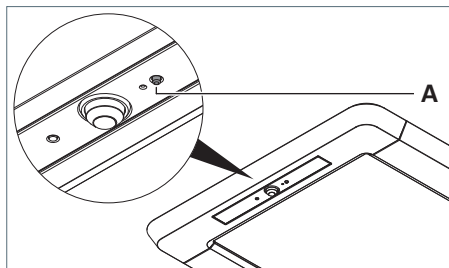
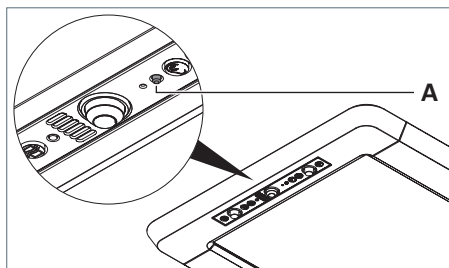

Fig. 31: Carrying out reset, version R.
Fig. 32: Carrying out reset, version RX.
- Press the key **A**, keep the key pressed and connect the luminaire to the power supply again, see Fig. 31 and see Fig. 32.